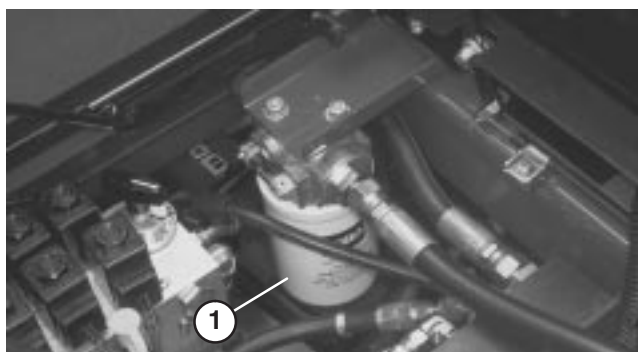

Figure 61
2. Clean area around filter mounting area (Fig. 61). Place drain pan under filter and remove filter.